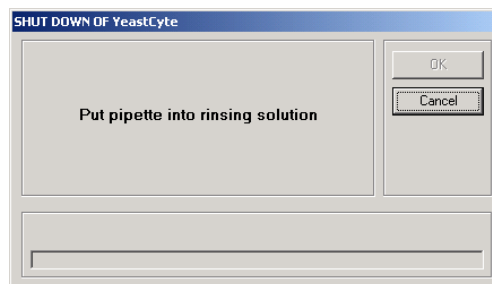

Figure 13 Shut Down dialogue
- When the cleaning cycle is completed, remove the chemicals and empty the waste containers. Then switch off the instrument (see Figure 13).